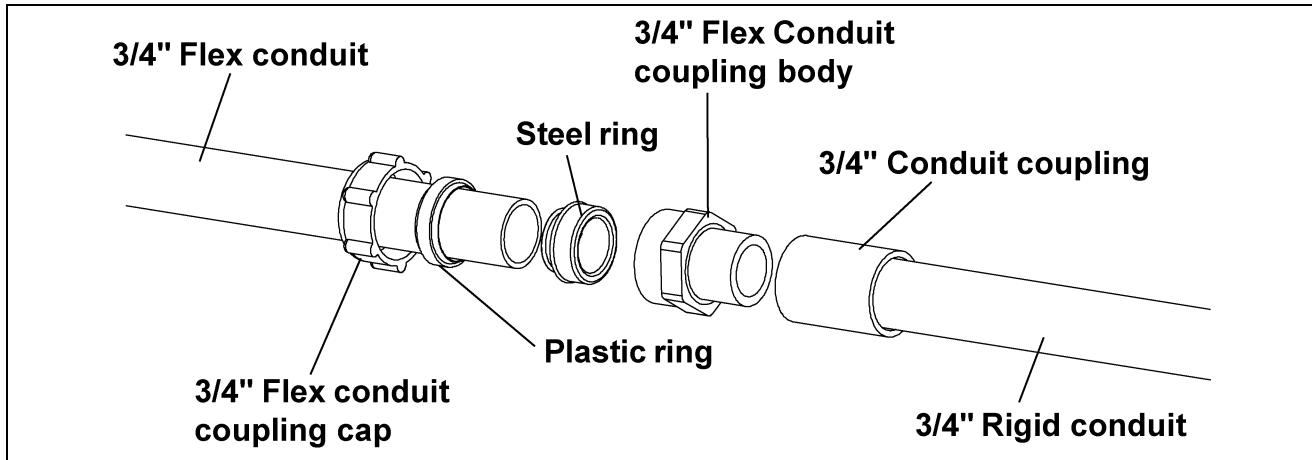

Figure 5AJ
4. Thread a steel ring into the 3/4" flex conduit. (See Figure 5AJ.)
5. Thread the 3/4" flex conduit coupling cap onto the 3/4" flex conduit coupling body. (See Figure 5AJ.)
- D. Attach the 3/4" x 12" liquid-tight flex conduit to the other end of the rigid conduit using one 3/4" conduit coupling and one 3/4" liquid-tight flex conduit coupling. (See Figure 5AK.)